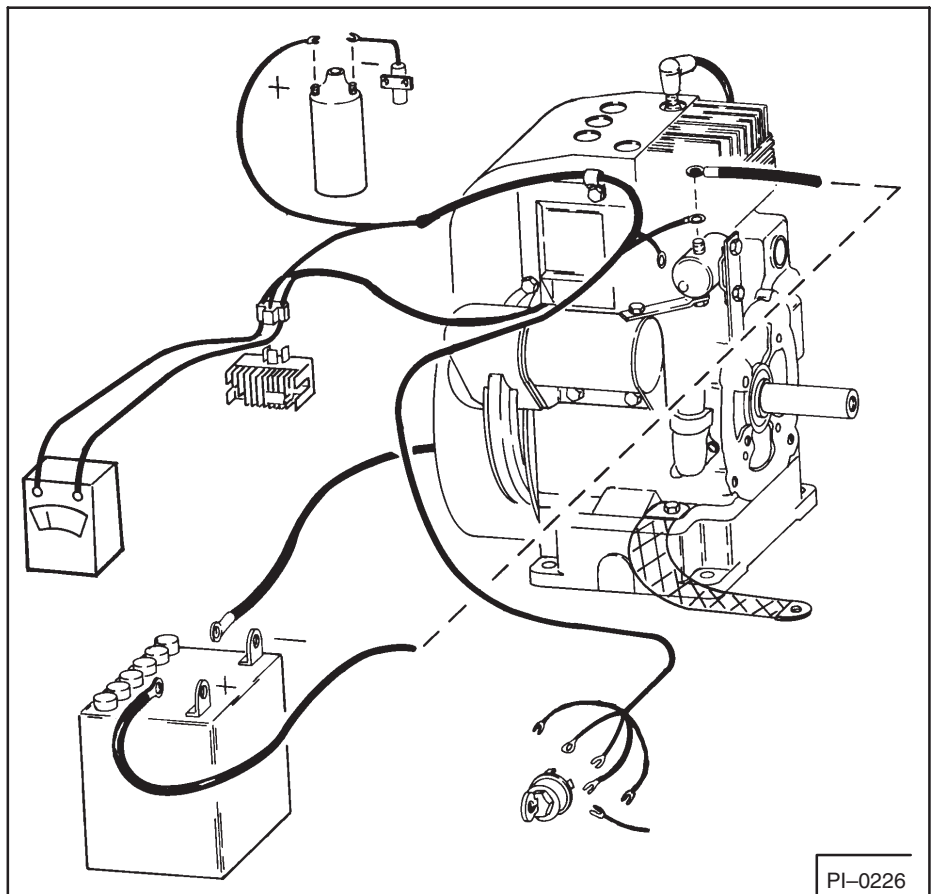

Fig. 72 Test No. 2
3. 0 volts—check for a defective stator or rectifier/regulator (Test No. 2). Test No. 2 (Fig. 72)
Test No. 2 (Fig. 72)